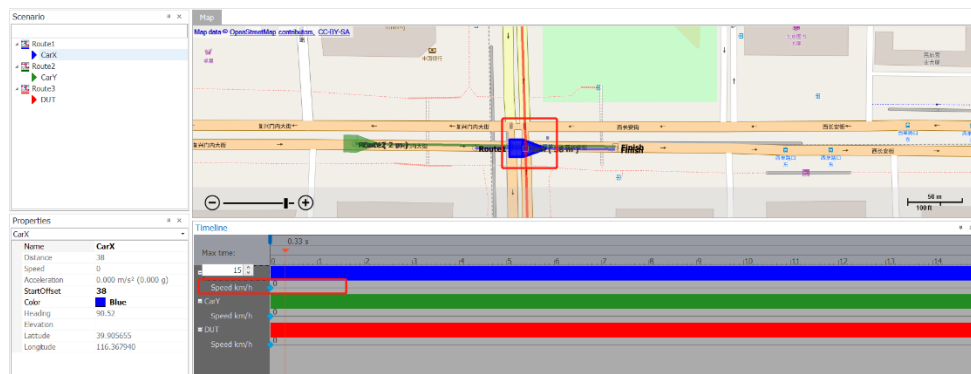

Figure 15: edit the speed parameter
- Configure CarX (RV-2) to simulate a stationary vehicle: drag the CarX in the Map and place it at the intersection to block the DUT (HV) line of sight, and edit the speed parameter in the timeline window to be 0 (Figure 15).